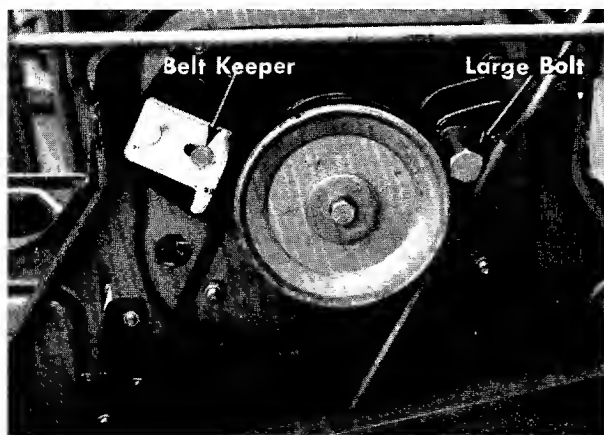

FIGURE 26. BELT KEEPER
Step 2. Remove the belt keeper and large bolt on the engine pulley. See figure 26.
Step 2. Remove the belt keeper and large bolt on engine pulley. See figure 26.